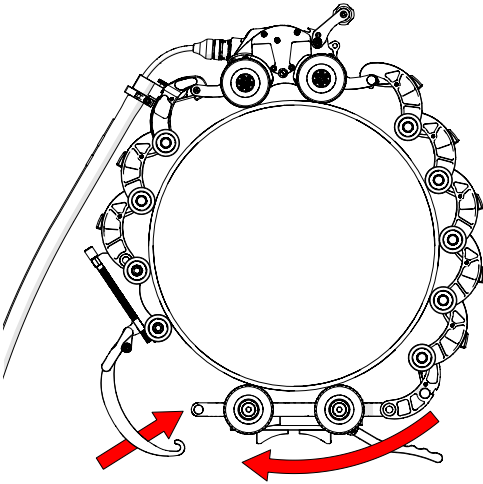

Fig. 91 - Hook buckle to chain link
9. Bring the buckle arm towards the chain link. Hook the buckle's arm to the middle axle of the chain link (Fig. 91).